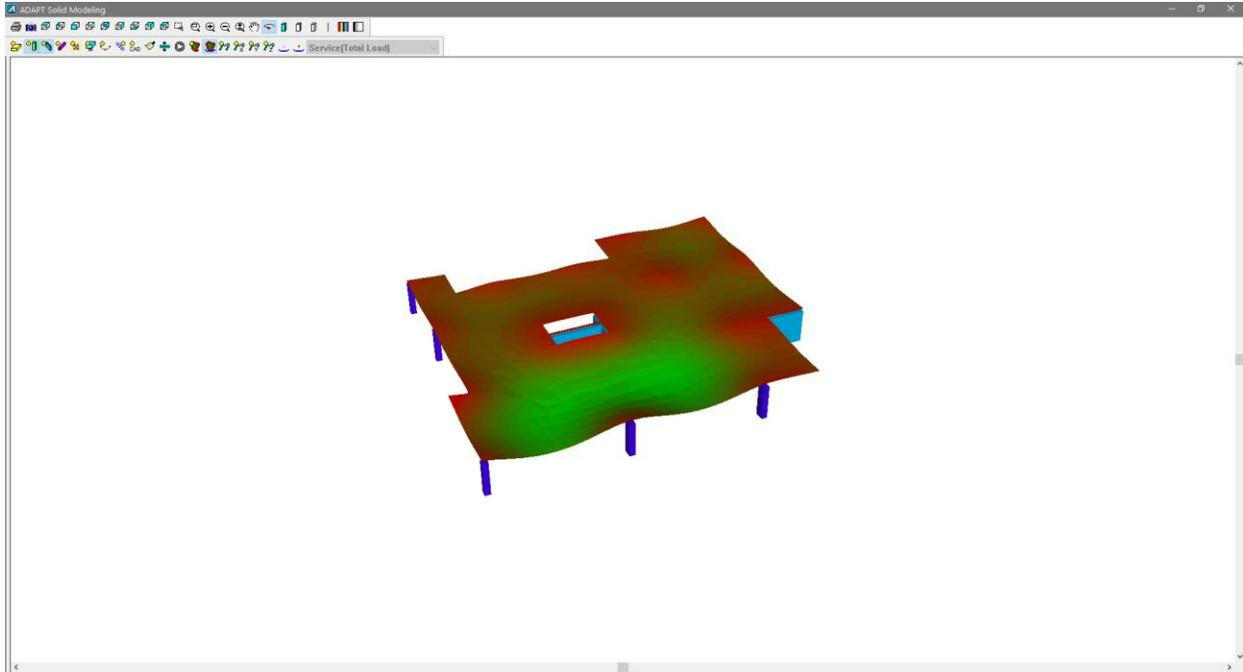

Figure 3-11
- Click on the *Warp Contour* icon  to warp the contours as shown in **FIGURE 3-11**.